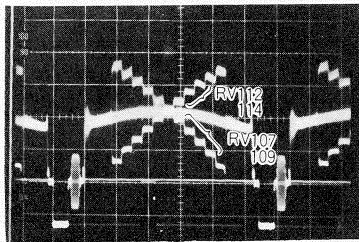

Fig. 92
4. Repeatedly turn RV107 and RV109 alternately to minimize the carrier in the 2nd ~ 6th steps from the bottom of the waveform (Refer to Fig. 92).